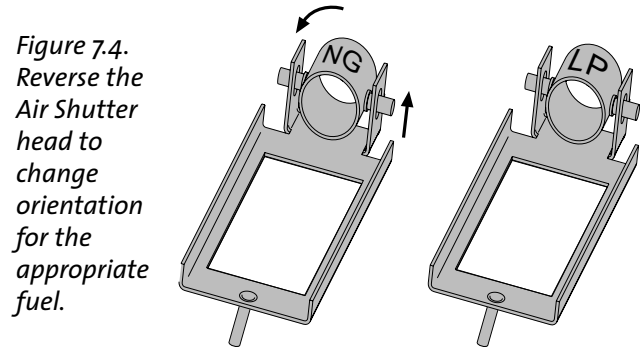

Figure 7.4.
**7. Reverse the Air Shutter orientation** to indicate the appropriate fuel. Fig. 7.4.